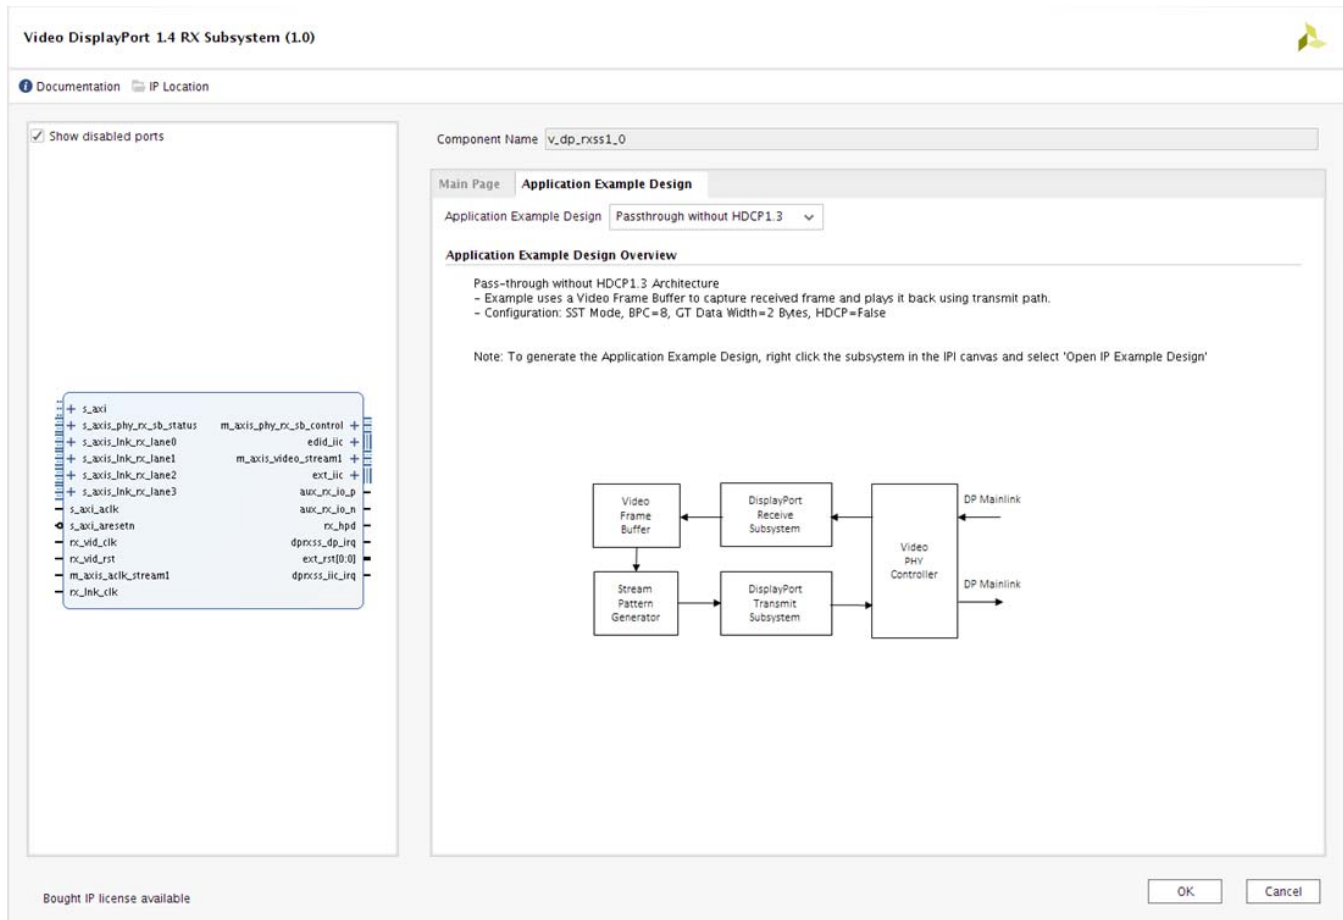

Figure 5-6: Application Example Design Topology
7. Double-click the IP and go to the **Application Example Design** tab in the **Customize IP** window (Figure 5-6). Select the supported topology in the **Application Example Design** drop-down box. Click **OK** and **Save** the block design.